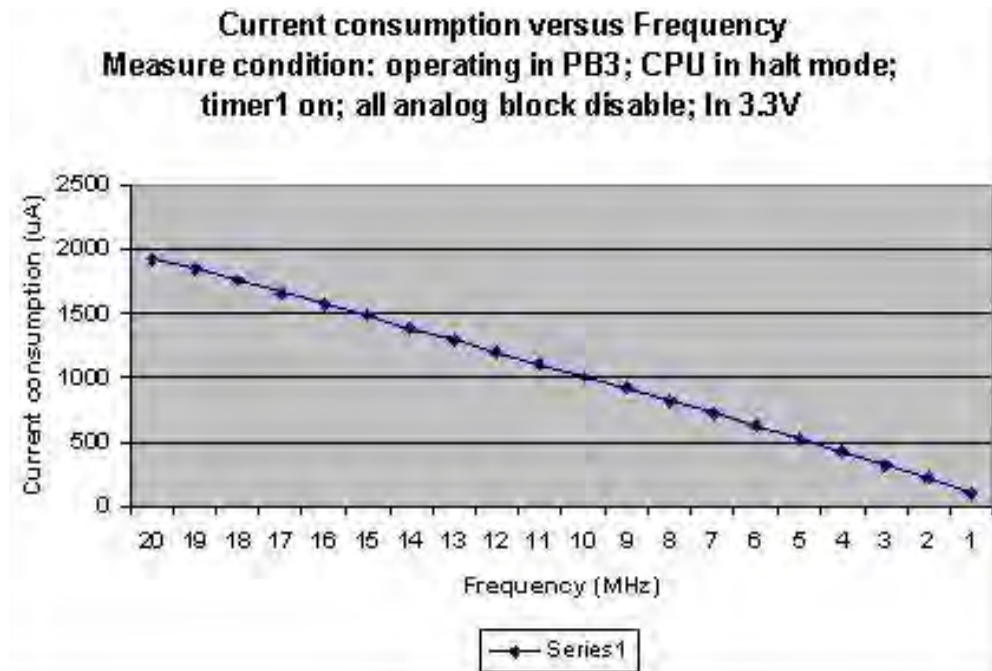

Figure 31. I_{CC} Versus System Clock Frequency (HALT Mode)
3. See Figure 31 for HALT Mode current.
Figure 31 displays the typical current consumption while operating at 25 °C, 3.3 V, versus the system clock frequency in HALT Mode.